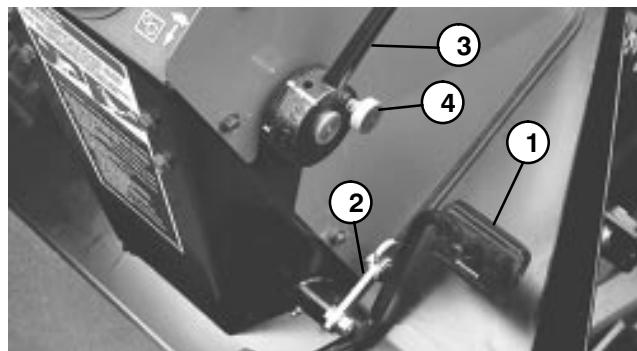

Figure 18
Traction Pedal (Fig. 18) – Controls forward and reverse operation. Depress top of pedal to move forward and bottom to move backward. Ground speed depends on how far pedal is depressed. For no load, maximum ground speed, fully depress pedal while throttle is in FAST. For maximum power under load or when going uphill, keep engine rpm high by having throttle in FAST and traction pedal partially engaged. If engine rpm begins to decrease due to load, gradually reduce traction pedal pressure until engine speed is increased.
Speed Selector (Fig.18) - Cam lever at side of traction pedal can be rotated to maintain desired speed. Rotating lever forward decreases speed and backward increases speed.
Axle Shift Lever (Fig.18) – Located on right side of console, lever selects front drive mode. Pull out lockout knob, move lever rearward for mowing operation and forward for transport operation, then release knob to lock selection. Lever must be in LO position to mow. Middle position (N) is for towing.